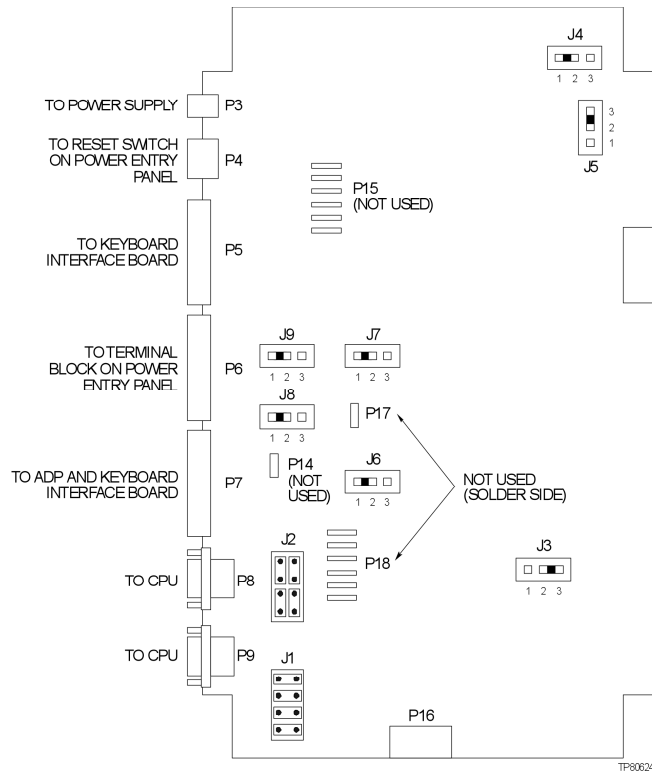

Figure 1
2.1 IIMKM02A Board. Set up the IIMKM02A board per figure 1 below: